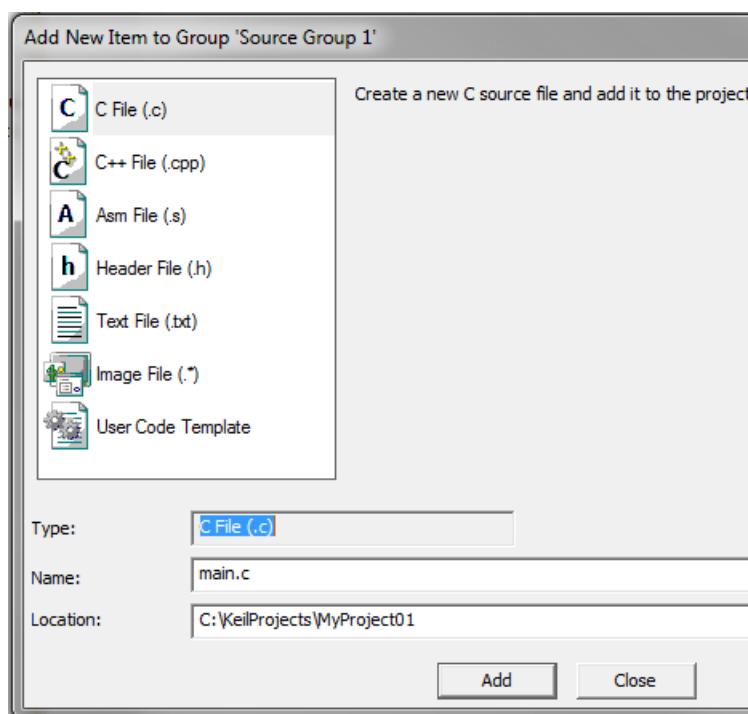

Figure 1-38. Adding new source file dialog
2. Select the C File (.c) option, and type a name of the file into the Name box, for example '*main.c*'. See Figure 1-38.